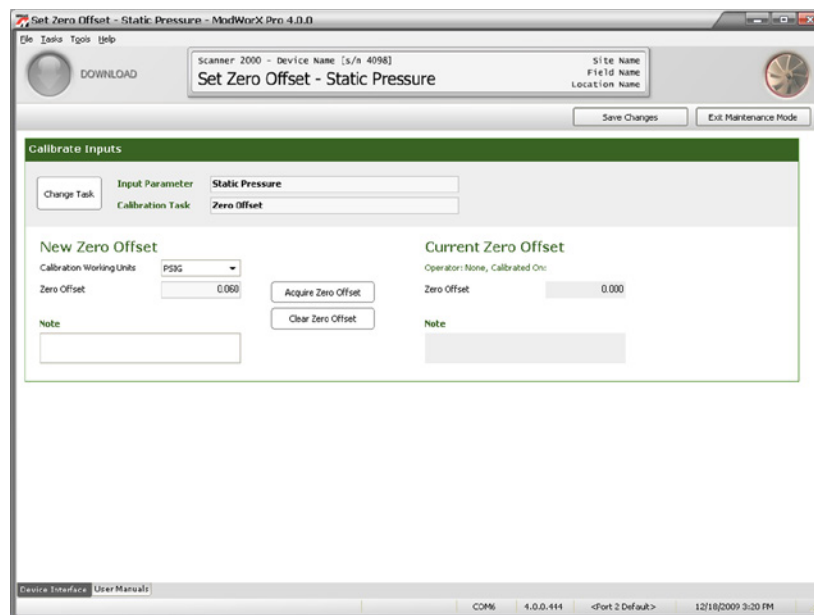

Figure 8.16
8. When a measured value is indicated, click **OK** to save the calibrated zero offset value and return to the Set Zero Offset – Static Pressure screen. The calibrated value will appear in the Zero Offset field (Figure 8.16).